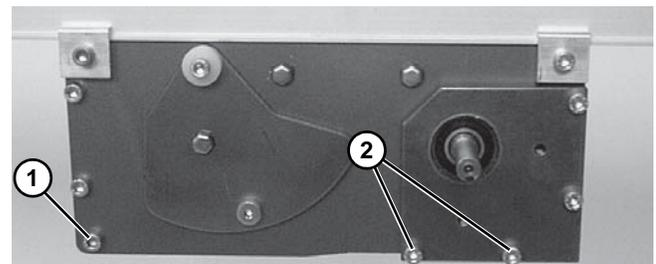

Figure 77
- Tighten corner screws (**Figure 77, item 1**) on each side of the drive module to 80 in-lb (9 Nm).
- Re-install tension door screws (**Figure 77, item 2**) on each side of the module. Tighten screws to 60 in-lb (6.8 Nm).
*With vertically mounted gearmotors, tension door screws (**Figure 77, item 2**) are installed on one side when the gearmotor mounting package is installed.*